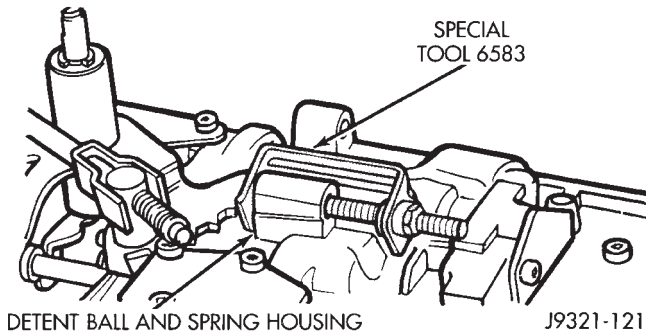

Fig. 108 Securing Detent Ball And Spring With Retainer Tool
(3) Secure detent ball and spring in housing with retainer tool 6583 (Fig. 108).